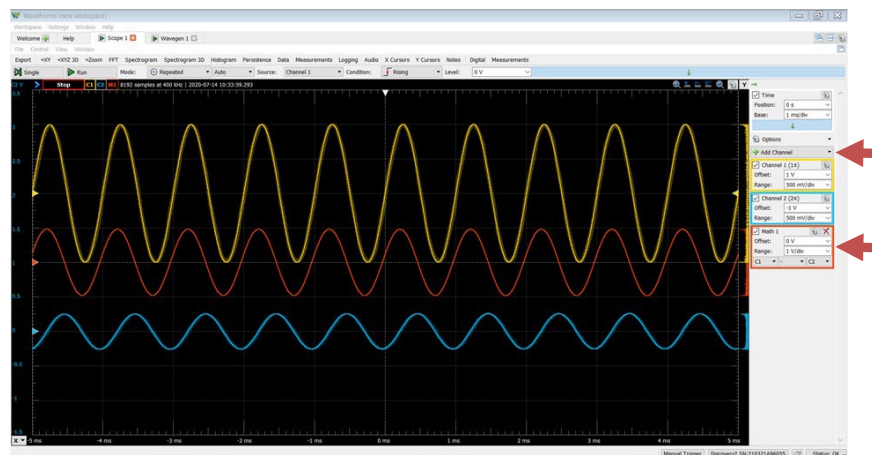

Figure 11 – Subtraction of Two Signals
- **Figure 11** shows the subtraction of two signals. The resulting signal is in the middle.